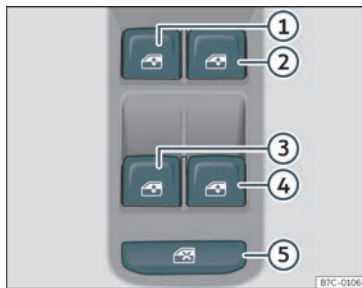

Fig. 88 Detail of the driver's door: window controls.
The safety control >>> **Fig. 88** ⑤ on the driver door can be used to disable the electric window buttons on the rear doors.